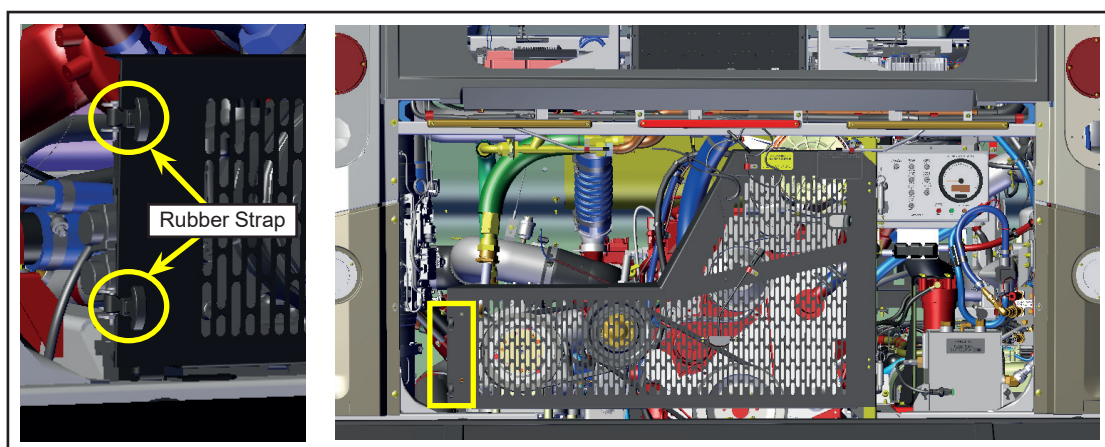

Figure 4 - Unlatching the Rubber Strap
- 1.6. Unlatch rubber strap from the belt guard assembly (see figure 4).